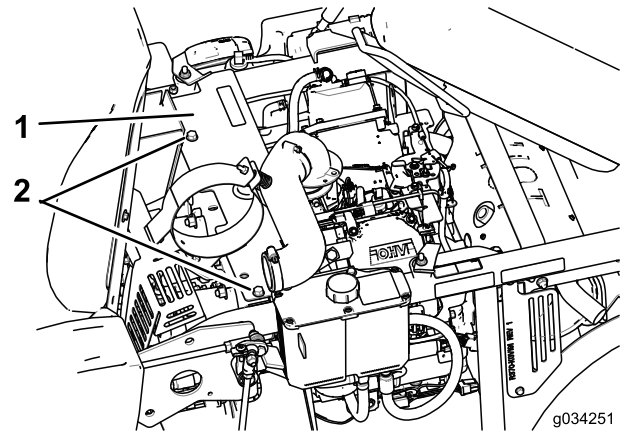

Figure 32
7. Lubricate the pump-belt idler arm (Figure 32).